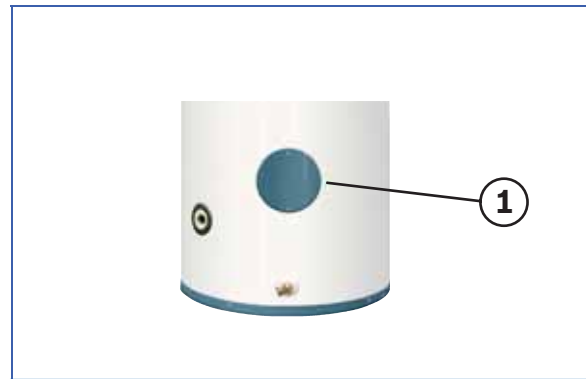

Figure 11 Opening for probe type thermostat
- A special 1/2" NPT opening is provided for installation of a "probe type" thermostat.(Figure 11)